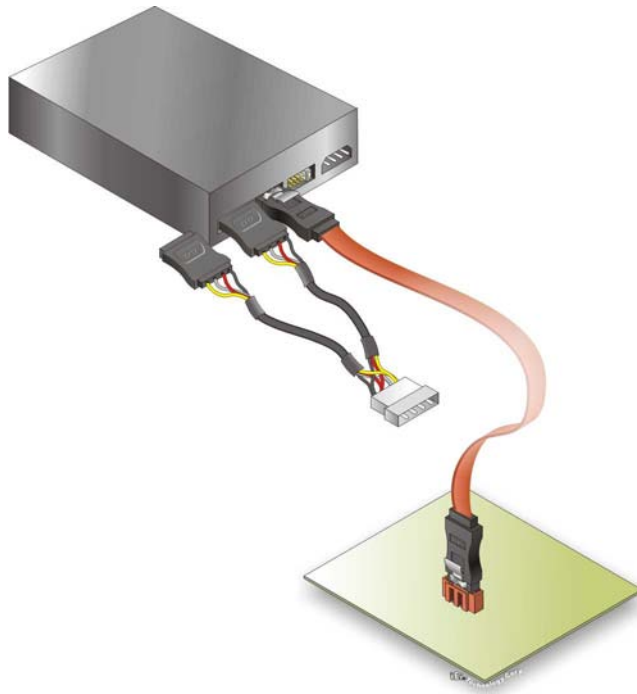

Figure 4-11: SATA Power Drive Connection
- Step 3:** **Connect the cable to the SATA disk.** Connect the connector on the other end of the cable to the connector at the back of the SATA drive. See **Figure 4-11**.
- Step 4:** **Connect the SATA power cable (optional).** Connect the SATA power connector to the back of the SATA drive. See **Figure 4-11**.